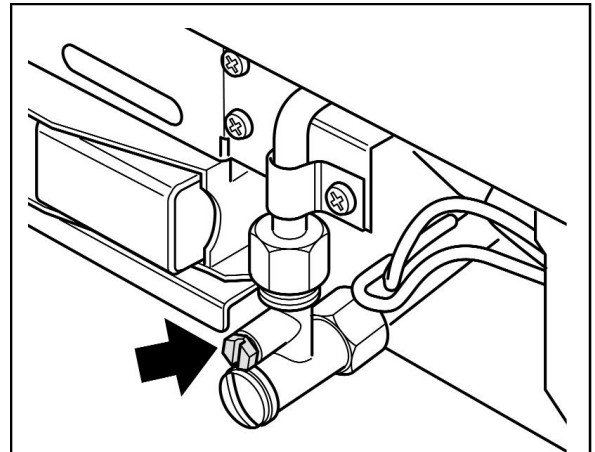

Figure 26. Pressure test point
1. Check the inlet pressure by fitting a pressure gauge at the test point. The test point is on the inlet ‘T’ connector (See figure 26). Check the pressure with the appliance alight